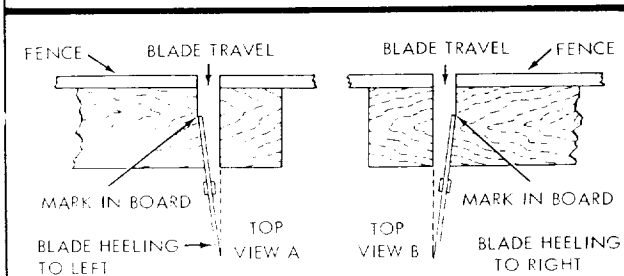

Figure 18
2. If a gap exists between the saw blade and the square, one of two types of "heel" exists. The two types of "heel" are illustrated in views "A" and "B", figure 18. To correct for either type of "HEEL" condition, proceed as follows: